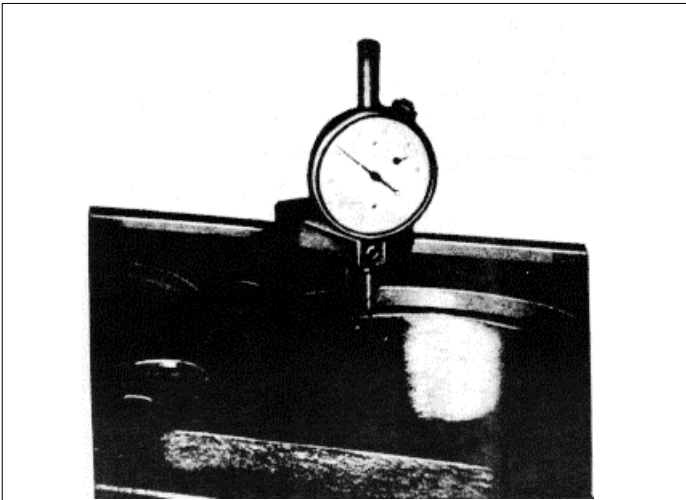

Fig. 18
- (6) Make sure the cylinder liner counterbores in the block are clean and free of dirt. Then check the depth (Fig. 18). The depth must be .4770" to .4795" and must not vary more than .0015" throughout the entire circumference. The counterbored surfaces must be smooth and square with the cylinder bore within .001" total indicator reading. There must not be over .001" difference between any two adjacent cylinder counterbores when measured along the cylinder longitudinal centerline of the cylinder block.
- (7) Check the main bearing bores as follows: